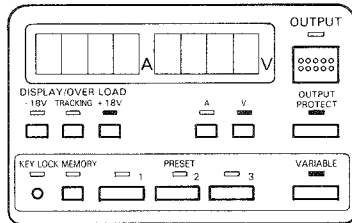

Fig. 7
- 1) Set the LEDs as shown in the Figure 7. (Make sure that the OUTPUT LED is not lit.)
- 3) Press the A KEY (6) and make sure that the A LED lights up.
- 5) Press the OUTPUT KEY (13) to obtain the output value entered from the positive (+) output terminal.